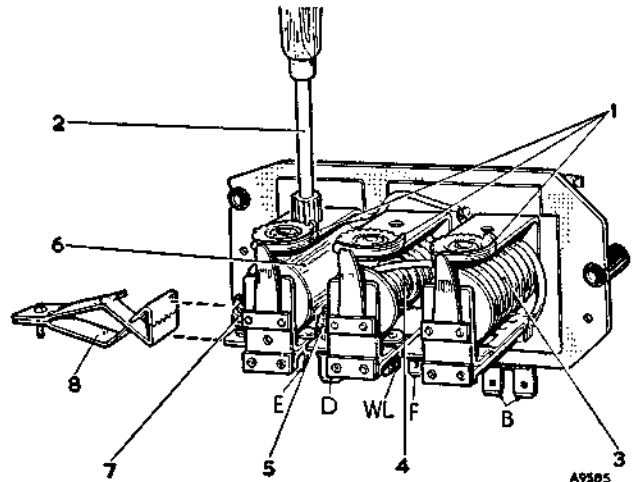

Fig. N.7
For adjustment purposes toothed cams are carried on the front limb of each magnet frame to enable voltage and current settings to be made with a special tool (see Fig. N.7).
Stop the engine and remove the control box cover. Restart the engine and run the dynamo at 3,000 r.p.m. Using a suitable tool (see Fig. N.7), turn the voltage adjustment cam until the correct setting is obtained. Turn the tool clockwise to raise the setting or anti-clockwise to lower it. Check the setting by stopping the engine and then again raising the generator speed to 3,000 r.p.m. Restore the original connections and refit the cover.
13.3 volts. If the cut-in occurs outside these limits an adjustment must be made. In this event proceed as follows. Remove the control box cover. Using a suitable tool (see Fig. N 7), turn the cut-out relay adjustment cam until the correct setting is obtained. Turn the tool clockwise to raise the setting or anti-clockwise to lower it. Stop the engine, restore the original connections, and refit the cover.
The dynamo must be made to develop its maximum rated output whatever the state of charge of the battery might be at the time of setting. The voltage regulator must therefore be rendered inoperative, and to do this the bulldog clip shown in Fig. N.7 is used to keep the voltage regulator contacts together.
Using a suitable tool (see Fig. N.7), turn the current adjustment cam until the correct setting is obtained. Turn the tool clockwise to raise the setting or anti-clockwise to lower it. Stop the engine, restore the original connections, and refit the control box cover.
Disconnect the battery. Using a suitable tool (see Fig. N.7), turn the adjustment cam of the regulator being adjusted to the point giving minimum lift to the armature tensioning spring (by turning the tool to the fullest extent anti-clockwise). Slacken the appropriate contact locking nut and unscrew the contact. Insert a feeler gauge of .056 in. (1.42 mm.) thickness between the armature and the regulator head as far back as the two rivet heads on the underside of the armature. With the gauge in position, press squarely down on the armature, and screw in the contact until it just touches the armature contact. Tighten the locknut and withdraw the gauge. Repeat this procedure on the remaining regulator.